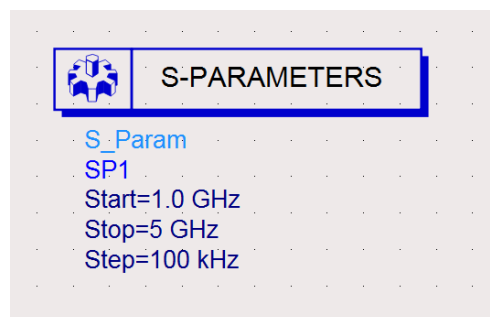

Figure 7: ADS S-parameter simulation settings
6. **Simulate project:** Click 'SP' to place an 'S-parameters' icon in the schematic as in Fig. 7, and double click it to set the frequency range and step for simulation. From the simulation tab click on **Simulate** or **F7** to simulate the circuit. Doing this generates the S-parameters for this circuit. **Print this schematic out and include it with your report.**